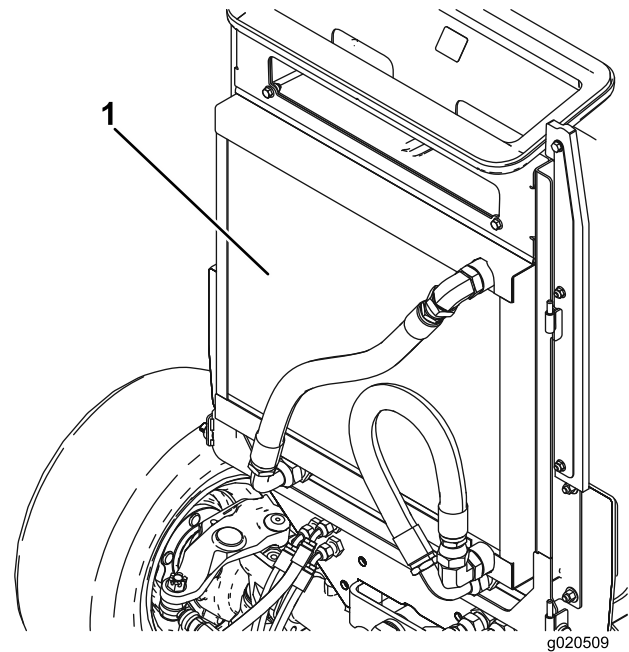

Figure 52
3. Thoroughly clean both sides of the oil cooler and the radiator (Figure 52) with compressed air. Start from the front and blow the debris out towards the back. Then clean from the back side and blow towards the front. Repeat procedure several times until all chaff and debris is removed.